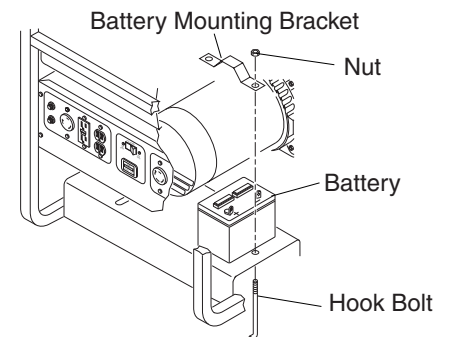

Figure 10 - Battery Hold-Down System (Model MGH6500AIE Shown)
1. Secure battery to generator by battery hold-down system. This system consists of the battery mounting bracket, hook bolts, and nut (see Figure 10).